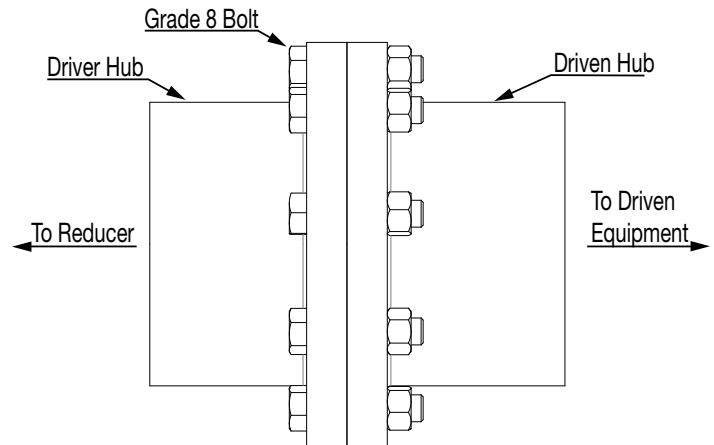

Figure 2 - Coupling Assembly
2. Assemble couplings as shown in Figure 2. Rotate the shafts so that the holes on each hub line up. Apply medium strength thread locker on each bolt prior to installation. Insert the included bolts into each hole and hand tighten.